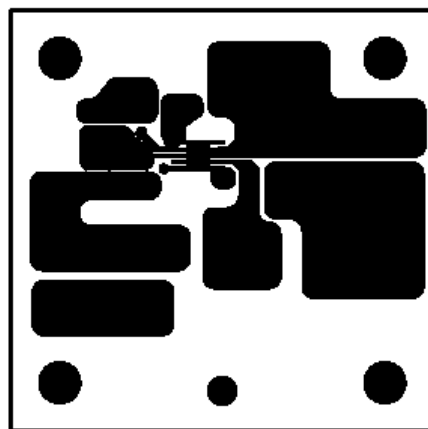

Figure 4. Top Layer
6. An example of 2-layer PCB layout is shown in Figure 4 to Figure 6 for reference.